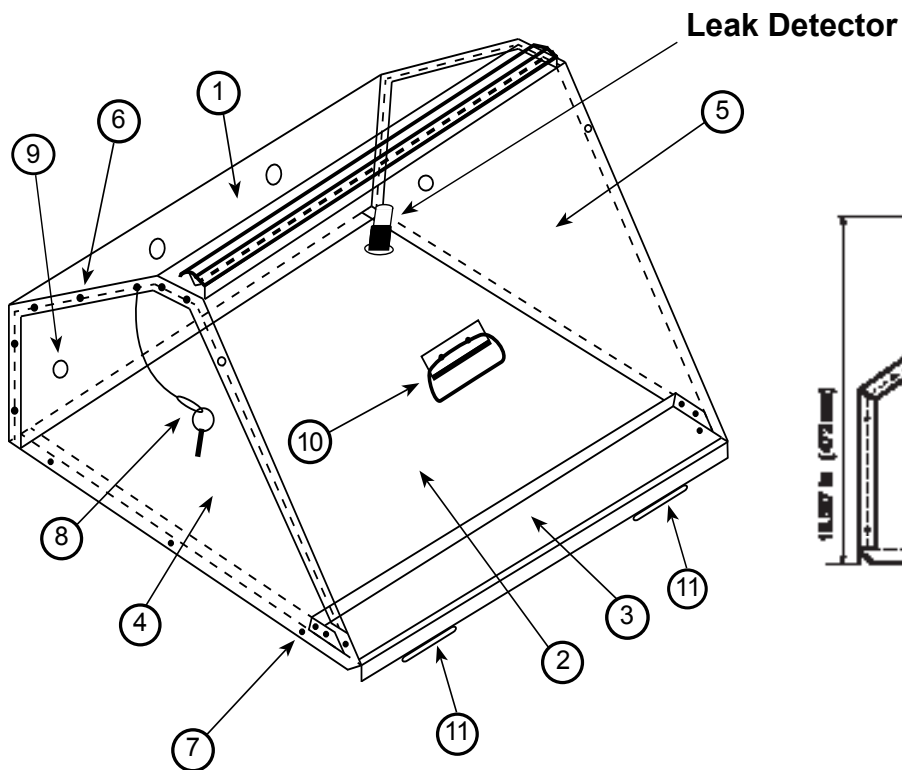

Figure 6-3
1. Attach fixed roof element (1) to side panels (4 & 5) using pan head phillips screws (6). Place Side panels on inside of roof element. Screw from the outside in. Attach lanyards at this time. (see figure 6-3 on page 35 for location)
2. Place hinge panel (3), mobil roof element (2) and hinge (11) assembly onto side panels at lower front and screw from outside in using pan head phillips screws (6). Fasten hinge panel to side panel lips (top down) using pan head phillips screws (6).
3. Place assembled cover onto tank. Leak detector should be in rear right corner of tank when cover is open. (see figure 6-3 on page 35 for location)
4. Drill starter holes into top lip of tank at pre-drilled holes in sides and fixed roof element. Fasten cover onto tank using slotted hex washer head screws (7).